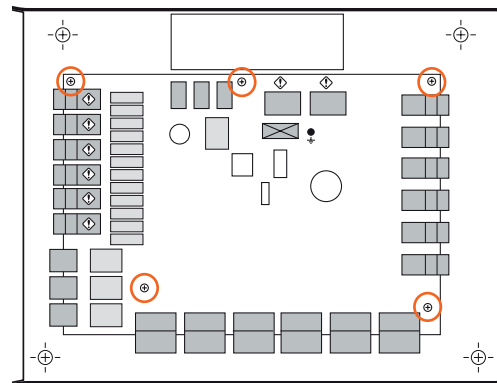

Figure 1
- Unscrew the five Phillips (cross-head) screws holding the motherboard to the enclosure (see Fig 1). Remove the motherboard, and put it out of harm's way.